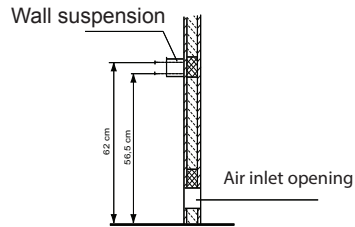

Fig. 2
1. Screw the wall bracket tight as per Fig. 2 + 3 centrally over the air inlet opening with the enclosed chipboard screws.